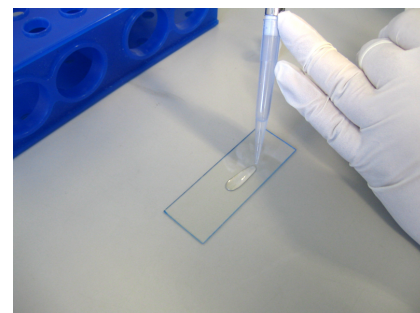

Fig. 1 Using a P1000 pipette tip streak cold CyGEL Sustain™ along the slide for the length of a coverslip
4. Transfer 250 µl of CyGEL Sustain™/cell suspension into a cold P1000 pipette tip. Quickly dispense onto a clean slide by streaking along the surface for the length of coverslip to be applied (see fig. 1). Repeat the process for the remaining CyGEL Sustain™/cell suspension – giving two microscope slide preparations.